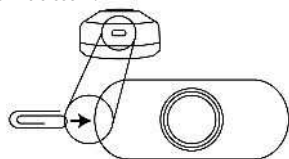

Figure 1
1. Open the front cover by inserting the included screwdriver into the square hole on the bottom of the unit (figure 1) & gently push & then separate the top & bottom halves of the case.
1. Open the front cover by inserting the included screwdriver into the square hole on the bottom of the unit (figure 1 above) & gently push in to separate the top & bottom half of the case.
6. Place top half (with battery installed) over bottom half. Make sure the small opening (see figure 1 above) on top half is pointing down. Place bottom of the top half over the small protruding clip on bottom half & snap into place.